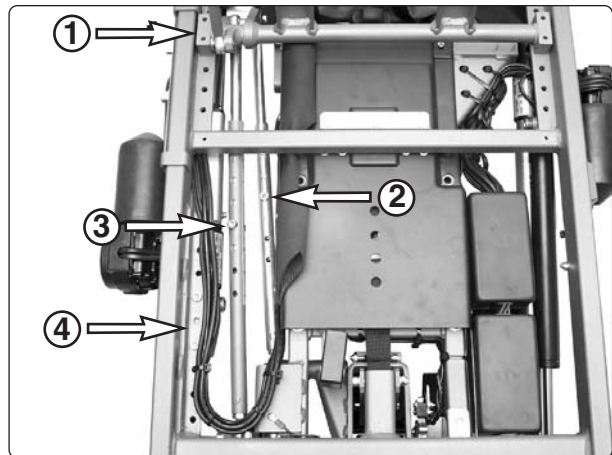

Fig. 18. The marking for the bearing brackets, the parallel strut and the actuator bracket must agree.
2. Unscrew and remove the locking screw from the backrest's parallel strut, see Fig. 18:2.
3. Unscrew and remove the locking screw from the armrest's parallel strut, see Fig. 18:3.
4. Remove the front bracket for the backrest's actuator, see Fig. 18:4.
5. Remove the backrest's bearing brackets. These are mounted using two screws each from the bottom, see Fig. 18:1 and 19.
8. Mount the front bracket for the backrest's actuator. Mount the bracket in the position with the same marking as the bearing brackets, see Fig. 18:4.
9. Remount the locking screw in the armrest's parallel strut. Mount the locking screw in the position with the same marking as the bearing brackets and the front bracket of the backrest's actuator, see Fig. 18:3.
10. Remount the locking screw in the backrest's parallel strut. Mount the locking screw in the position with the same marking as the bearing brackets, the front bracket of the backrest's actuator and the armrest's parallel strut, see Fig. 18:2.